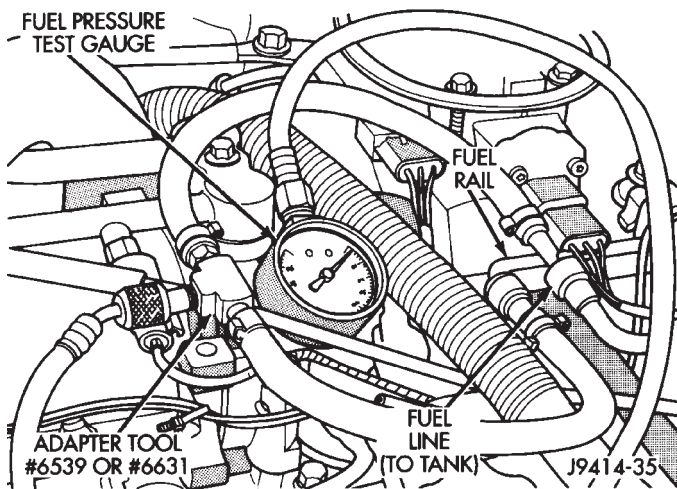

Fig. 7 Connecting Adapter Tool—Typical
(1) Disconnect the fuel inlet line at fuel rail. Refer to Fuel Tubes/Lines/Hoses and Clamps in this section of the group for procedures. On some engines, air cleaner housing removal may be necessary before fuel line disconnection.
(2) Connect the appropriate Fuel Line Pressure Test Adapter Tool (number 6539, 6631, 6541 or 6923) between the disconnected fuel line and fuel rail (Fig. 7) or (Fig. 8).